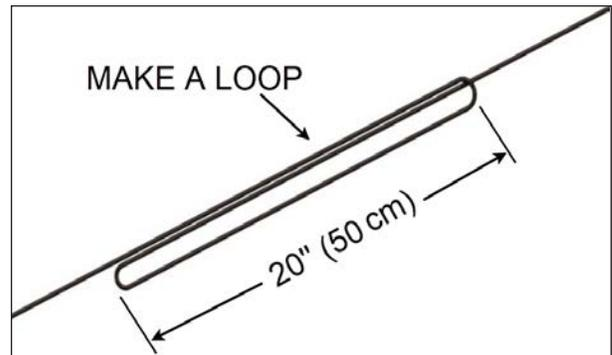

FIGURE 68: WIRE LOOP
2. Fold wire in two by making a loop with your hands. The length of the loop must be approximately 20" (50 cm) long, see Figure 68.